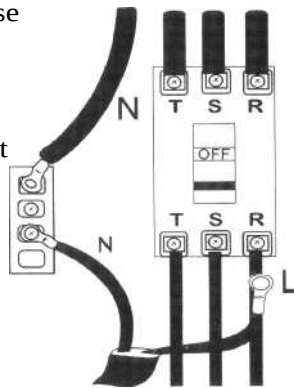

Figure 6: UPS input terminal wire
9. When connect wire to distribution terminal, DO NOT share the switch with other equipment as shown in figure 6